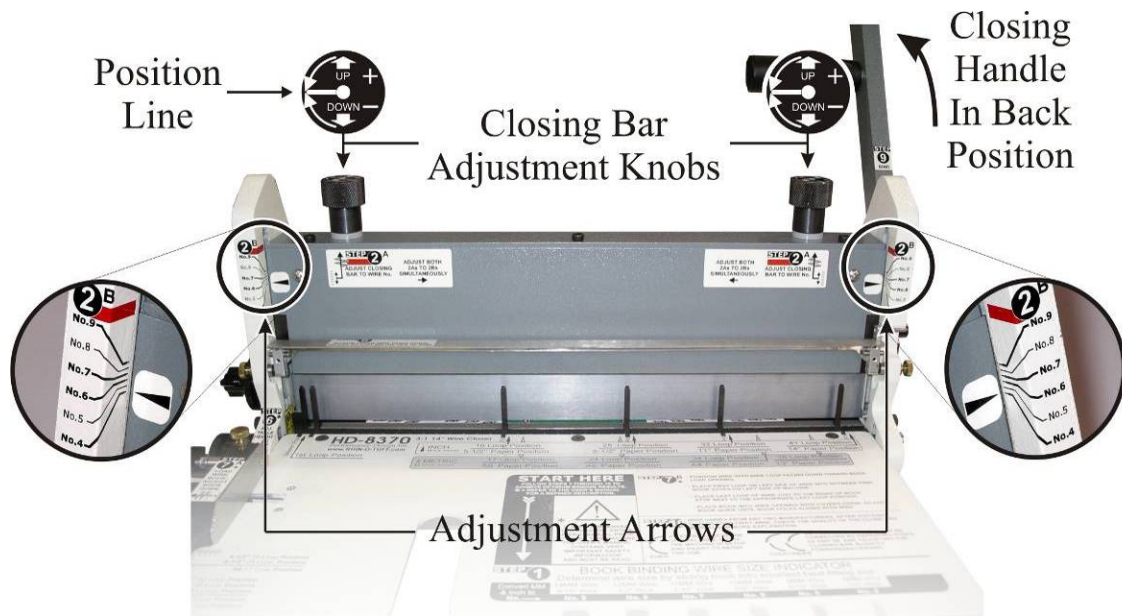

Fig. 2
STEP 2A & 2B RED, Adjust Closing Bar: See Figure 2, next page.
With the closing handle in the BACK position (EWC-8370 in its normal up position), adjust the Closing Bar by turning BOTH Adjustment Knobs simultaneously to the wire number determined in STEP 1 to Both labels 2B. The Closing Bar Adjustment Knobs have a UP/DOWN turning Indicator as well as a Position Line. The Position Lines are visual aids to help maintain parallelism between the Closing Bar and the lower closing bar. Simply turn the Closing Bar Knobs simultaneously keeping the Position Lines in sync. Wire varies from any two manufacturers and in rare cases you may need to lower or raise only one end of the Closing Bar for a consistent close from end to end. Adjust the upper closing bar to setting No. 4 as shown in Figure 2 next page.